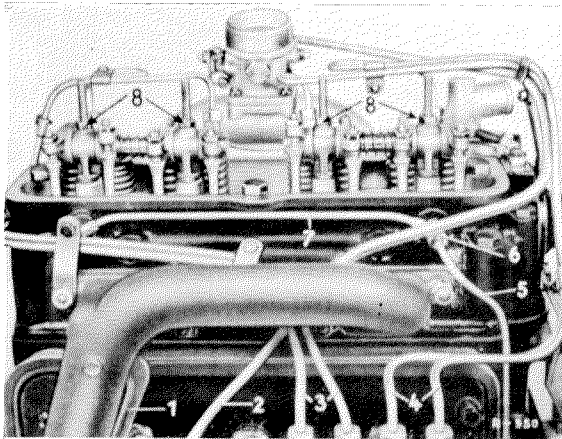

Figure 05-1/1
2. Unscrew the mounting nuts (8) for the rocker arm brackets and remove them together with the rocker arms (see Figure 05-1/1). Check the rocker arms and the rocker arm seats and repair (see Job No. 05-2).
5. Insert the rocker arm brackets with rocker arm shafts and rocker arms into the stud bolts of the cylinder head. Place spring washers on the rocker arm brackets, screw on the mounting nuts (8) and tighten with a torque of 2 mkg (see Figure 05-1/1).
7. Operate the engine for a short time and check whether a sufficient quantity of oil sprays from the grooves (8) of all 4 rocker arm brackets (see Figure 05-1/1 and 05-2/3).